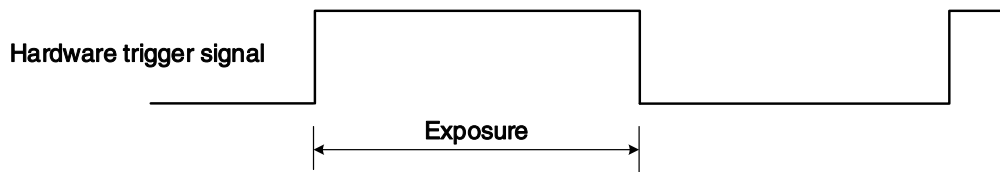

Figure 8-29 The sequence diagram in rising edge trigger of TriggerWidth exposure mode
- If rising edge triggering is enabled, exposure starts when the trigger signal rises and continue until the trigger signal falls, as shown in Figure 8-29